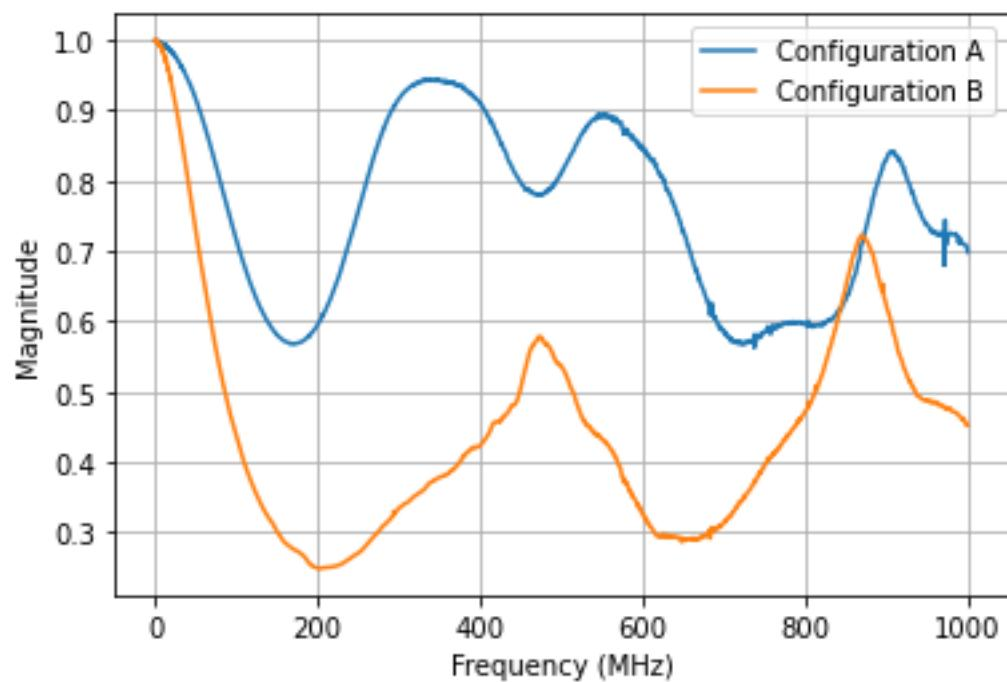

Figure 3: The  $|S_{21}|$  parameter for both configurations.
**Answer:** One possible explanation for this change in behavior is the presence of a resonance in the system. By storing and plotting (Figure 3) the absolute value of the magnitude (not in dB) we can see that there is a small frequency shift between the resonant frequency for Configuration A and B. In Configuration A, where we have a smaller inductive loop, the value of the scattering coefficient stops monotonically decreasing earlier than it does in Configuration B.